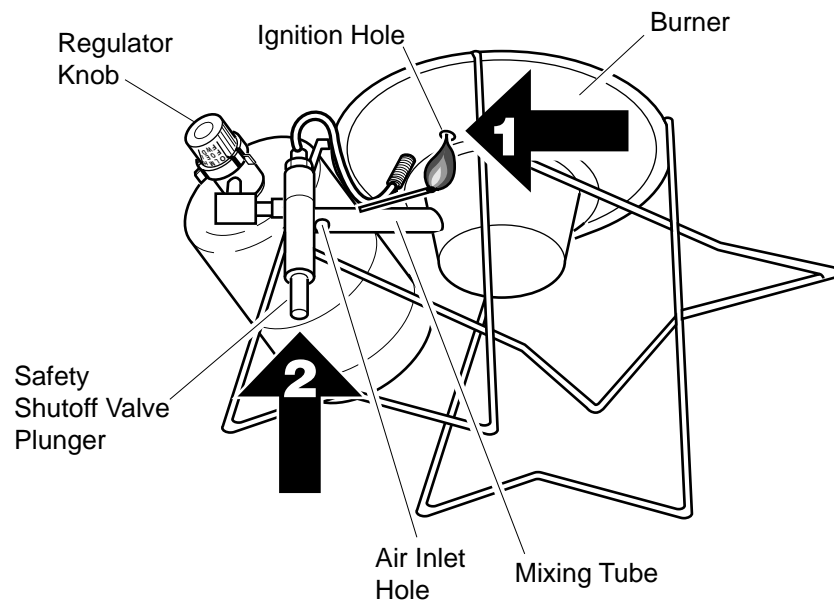

Figure 2 - Lighting Heater/Cooker
2. Turn regulator knob on propane bottle counterclockwise to the "HI" position (see Figure 2).
3. **WARNING: Stand to the side of unit while lighting. Do not stand or have any part of your body over or in front of heater/cooker while lighting.** Locate ignition hole in underside of burner (see Figure 2). Hold a lit match under ignition hole. **CAUTION: Do not insert match into air inlet holes in mixing tube.** Push in the safety shutoff valve plunger (see Figure 2). **WARNING: Do not push in safety shutoff valve plunger before inserting lit match.** Burner should light. Mesh screen on burner glows red when lit. After burner is lit, continue holding in safety shutoff valve plunger (about 10 to 30 seconds) until heater/cooker stays lit.